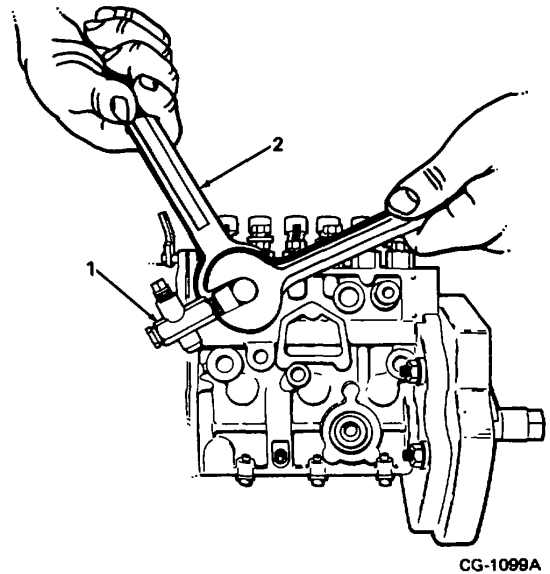

Figure 3. Fuel Return Valve Removal
6. Remove fuel return valve. Hold adapter in place with a 3/4 inch wrench while removing elbow and valve body (Figure 3).